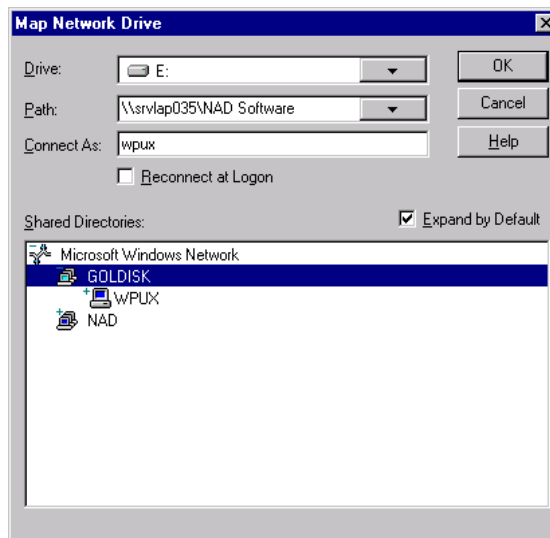

FIGURE 1-10. Map Network Dive Dialog
- 1.28 Touch the 'Path' dropdown arrow and select your previously entered path name, i.e., '\\srvlap\NAD Software' if using Windows 95 or Windows 98, or Windows ME. If using Windows NT or Windows XP, you must use your unique computer name in the field path, i.e., '\\srvlap042\NAD Software', or '\\L98474\NAD Software'. If your required path is not included in the dropdown list, touch the 'Path' field to move the cursor, then use the keyboard connected to the NM6400 to enter this information. See FIGURE 1-10.